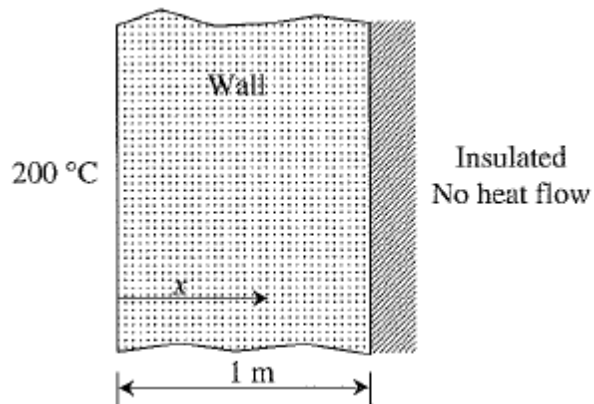

Figure P7.2
- Replace the temperature boundary condition of the inside wall of the oven with air temperature of 400°C and an associated convection coefficient of $100 \text{ W/m}^2 \cdot \text{K}$. Show the contribution of this boundary condition to the conductance matrix and the forcing matrix of element (1). Also determine the temperature distribution along the composite wall.
2. Consider a heat chamber in which the temperature inside is maintained at a constant value of 200°C (see **Figure P7.2**). The chamber is covered by a 1.0-m-thick metal wall and outside is insulated so that no heat flows to the outer surface of the wall. There is a uniform heat source inside the wall generating $Q = 400 \text{ W/m}^3$. The thermal conductivity of the wall is $k = 25 \text{ W/m}^0\text{C}$. Assuming that the temperature only varies in the x -direction, find the temperature distribution in the wall.